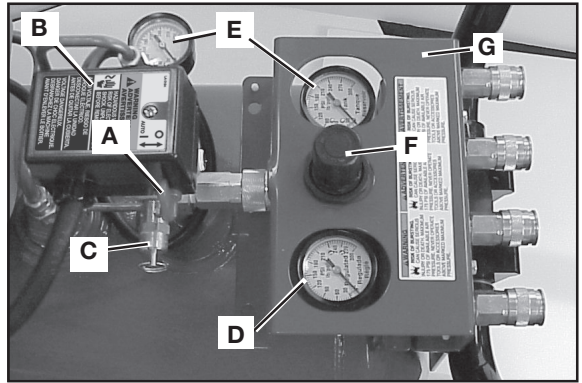

Fig. 1
**Regulator (F) Fig. 1:** Controls the air pressure shown on the outlet pressure gauge. Pull the knob out and turn clockwise to increase pressure and counterclockwise to decrease pressure. When the desired pressure is reached push knob in to lock in place.
**Portable "Quadraport" Control Panel (G) Fig. 1:** Permits remote air regulation and control closer to work area, includes four high-flow industrial/automotive style compatible quick-connects, large gauges, and a high-flow regulator.